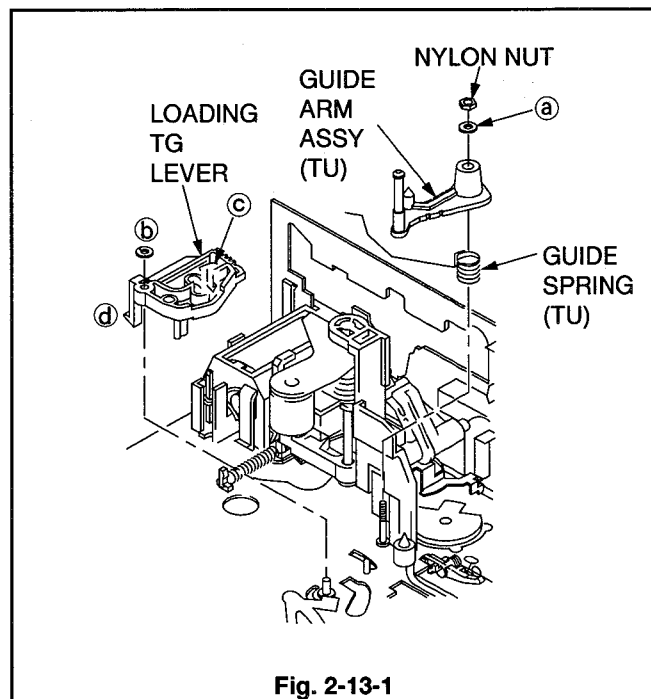

Fig. 2-13-1
- 1 Remove the NYLON NUT shown in Fig. 2-13-1 to remove the SL WASHER (a), the GUIDE ARM ASSY (TU) and GUIDE SPRING (TU).
- 2 Remove the CUT WASHER (b) fastening the LOADING TG LEVER shown in Fig. 2-13-1.
- 3 Unfasten the two catches (c and d) of the LOADING TG LEVER shown in Fig. 2-13-1 to remove the LOADING TG LEVER.
- 2 Install the LOADING TG LEVER shown in Fig. 2-13-1.
- 3 Install the CUT WASHER shown in Fig. 2-13-1 to fasten the LOADING TG LEVER.
- 5 Fix the GUIDE ARM ASSY (TU) with the GUIDE SPRING (TU) attached shown in Fig. 2-13-1 to the shaft of the MAIN PLATE ASSY.
- 8 Install the SL WASHER (a) and NYLON NUT shown in Fig. 2-13-1.
- 9 Perform "Adjustment of GUIDE ARM ASSY (TU) Height" in Para. 3-5 of "Interchangeability Adjustment of the Mechanism".